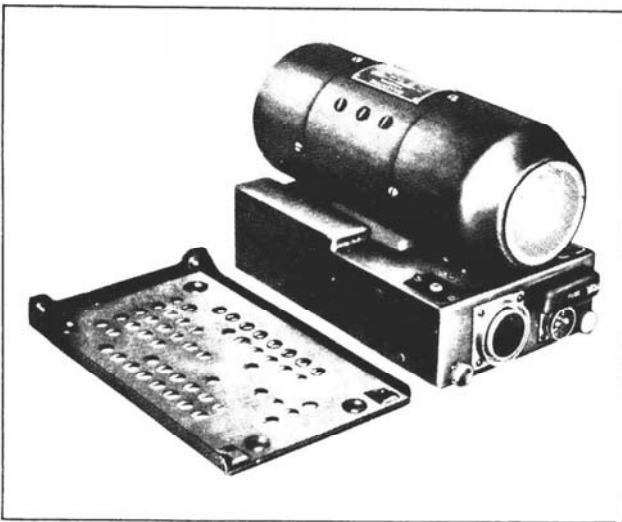

Figure 2-8—Dynamotor Unit DY-11/ART-13 (Navy Type -23333 Power Unit, with Dynamotor -21931)—with Mounting Plate MT 164/ART-13
(2) Safety wire Dynamotor Unit DY-17/ART-13 by passing the wire through one of the holes in the knob and the hole in the corner of the filter and relay box. See figure 2-8.